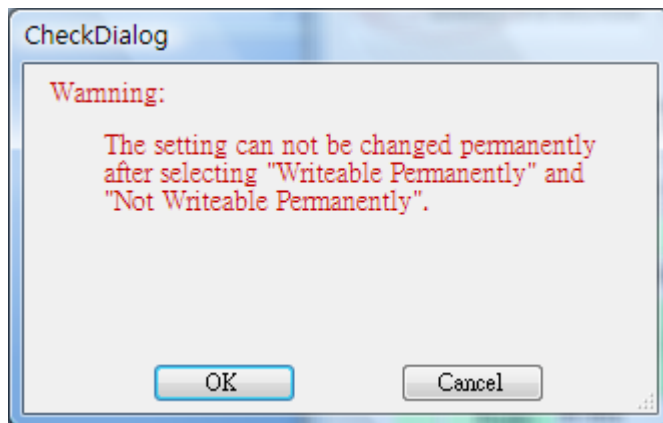

Figure 41
- The kill and lock function would not be change permanently, please confirm again as figure 41.